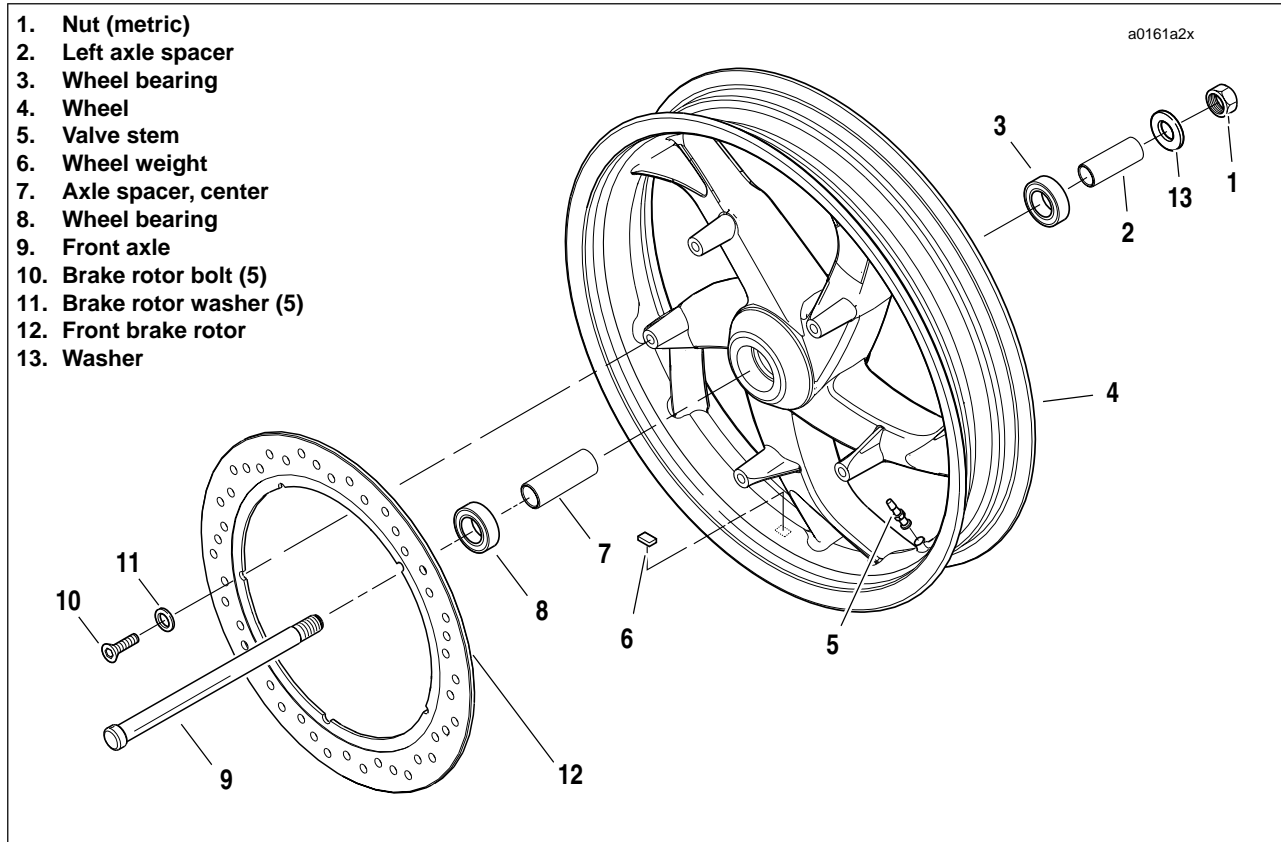

Figure 2-6. Front Wheel Assembly
1. See Figure 2-6. Remove five bolts (10) and washers (11) to detach front brake rotor (12) from wheel hub. Discard bolts and washers.
1. See Figure 2-6. Install front brake rotor (12) on right side of wheel.
- b. Apply Loctite Threadlocker 271 (red) to threads of each of five **new** T40 TORX screws (10).
1. See Figure 2-6. Install front axle.
- d. Install axle spacer (2) and washer (13).
3. See Figure 2-6. Install axle nut.
- b. Install axle nut (1) (metric) over threaded end of axle.
- d. While holding axle stationary, tighten axle nut (1) (metric) to 38-42 ft-lbs (52-57 Nm).